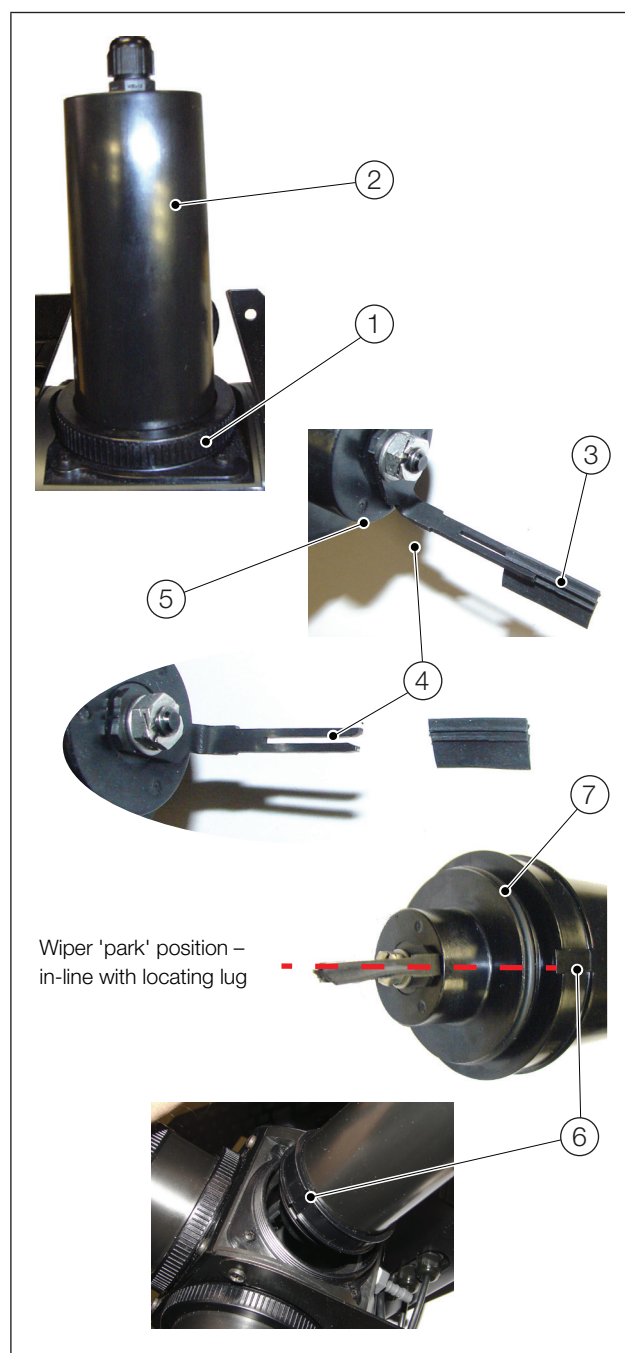

Fig. 3.1 Replacing wiper blade
2. Referring to Fig. 3.1:
- a. Release wiper module retaining collar (1) and remove wiper module (2).
- c. Pull wiper blade (3) out of slot (4) in wiper arm (5) and discard.
- d. Ensure wiper arm is at right angles and slot (4) is straight and parallel.
- e. Taking care not to damage the new wiper blade, slide it into the wiper arm slot (4), ensuring blade edge is facing outwards.
- h. When clean cycle is complete, ensure wiper blade stops in-line with cut-out (6) in wiper module flange.
- i. Ensure O-ring (7) is undamaged and located correctly in wiper module groove.
- j. Carefully insert wiper module (2) into cell body, ensuring cut-out (6) in wiper module flange engages correctly with locating lug on cell body.